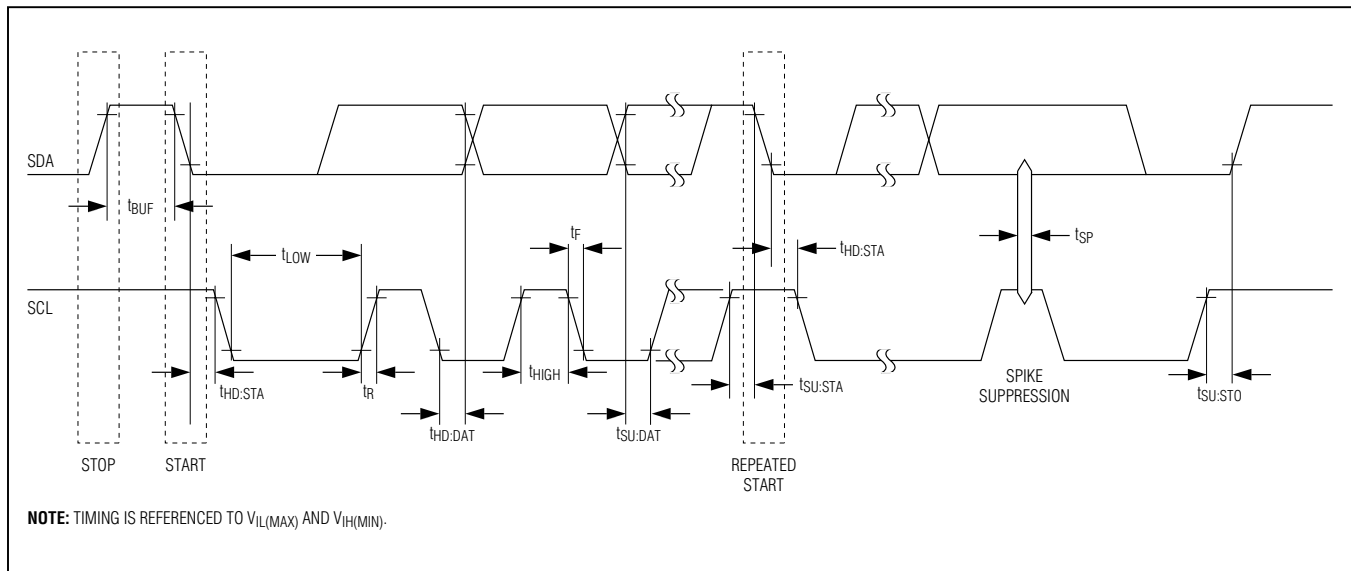

Figure 10. I2C Timing Diagram
**Data Valid:** With the exception of the START and STOP condition, transitions of SDA can occur only during the low state of SCL. The data on SDA must remain valid and unchanged during the entire high pulse of SCL plus the required setup and hold time ( $t_{HD:DAT}$  after the falling edge of SCL and  $t_{SU:DAT}$  before the rising edge of SCL; see Figure 10). There is one clock pulse per bit of data. Data is shifted into the receiving device during the rising edge of the SCL pulse.
When finished with writing, the master must release the SDA line for a sufficient amount of setup time (minimum  $t_{SU:DAT} + t_R$  in Figure 10) before the next rising edge of SCL to start reading. The slave shifts out each data bit on SDA at the falling edge of the previous SCL pulse and the data bit is valid at the rising edge of the current SCL pulse. The master generates all SCL clock pulses, including those needed to read from a slave.